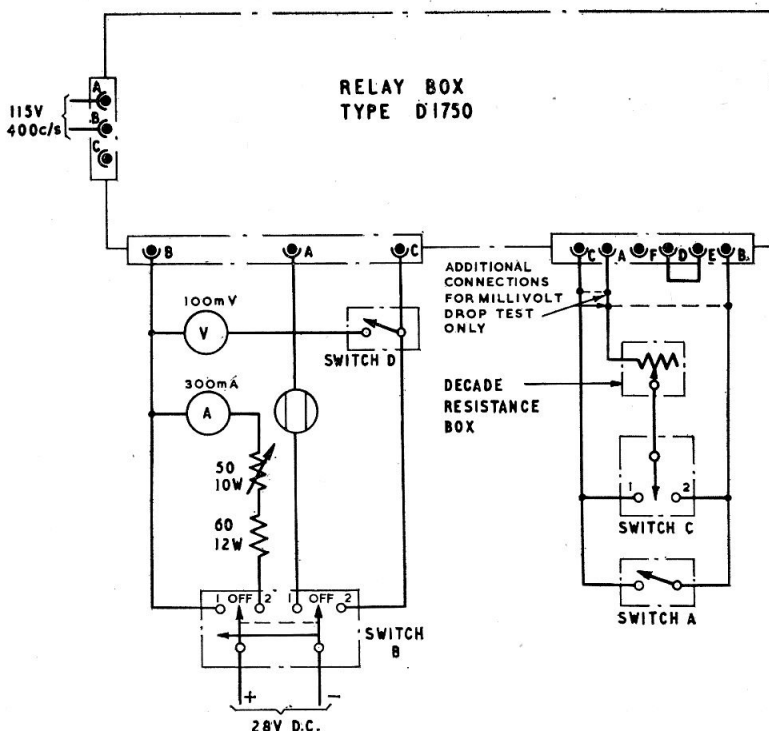

Fig. 4. Test circuit diagram
11. The relay box should be functionally tested using a Gravinier Firewire test set and the procedure given in the Standard Serviceability Test, Appendix A to this chapter. Additionally the millivolt drop through the contacts of the warning relay and the test switch may be measured using the test circuit given in fig. 4 which may also be used for functional tests where a test set is not available.
13. The millivolt drop across the contacts of the relay and the test switch may be determined by connecting shorting links or suitable switches, shown by broken line in fig. 4, across terminals A, B and C of the 6-pole plug.